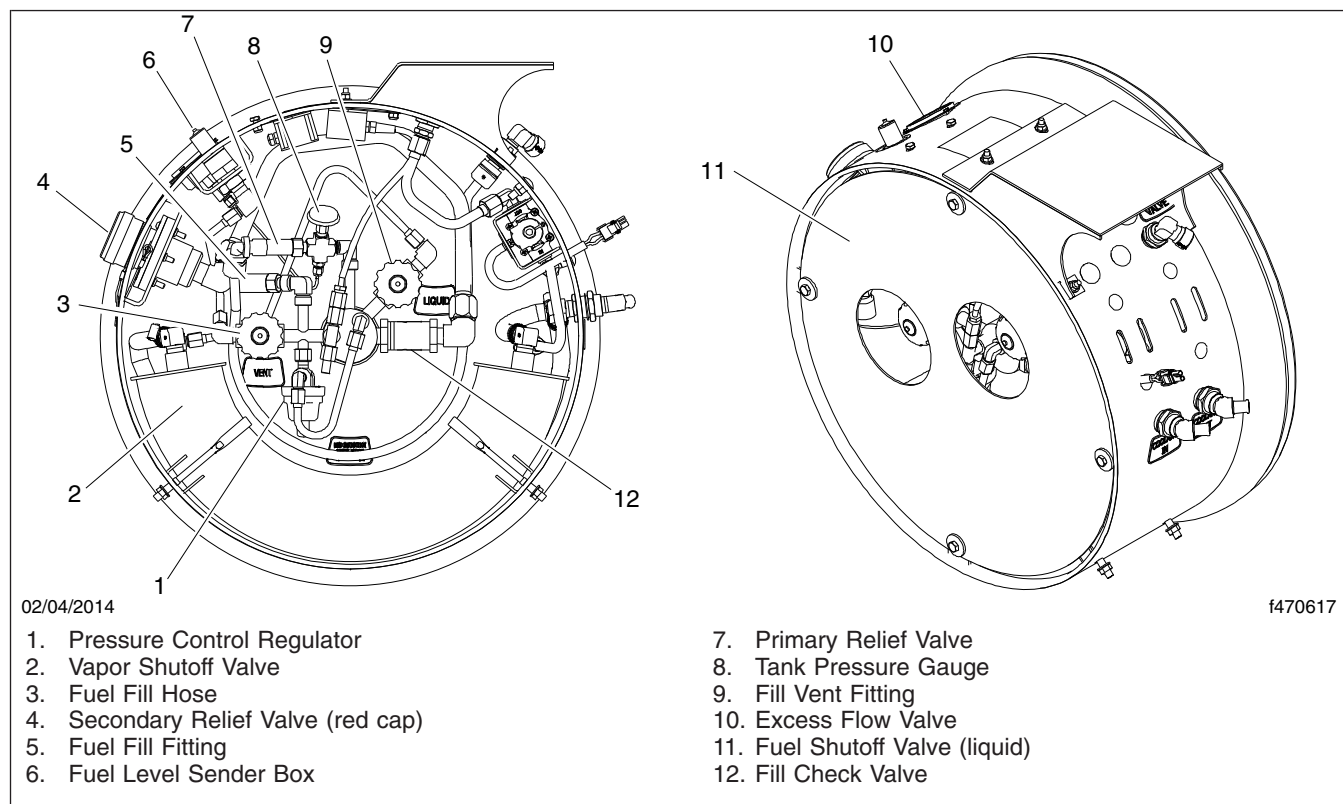

Fig. 1, LNG Tank Plumbing Components
4. Close the fuel shutoff and vapor shutoff valves. See **Fig. 1**.
11. Open the fuel shutoff and vapor shutoff valves. See **Fig. 1**.